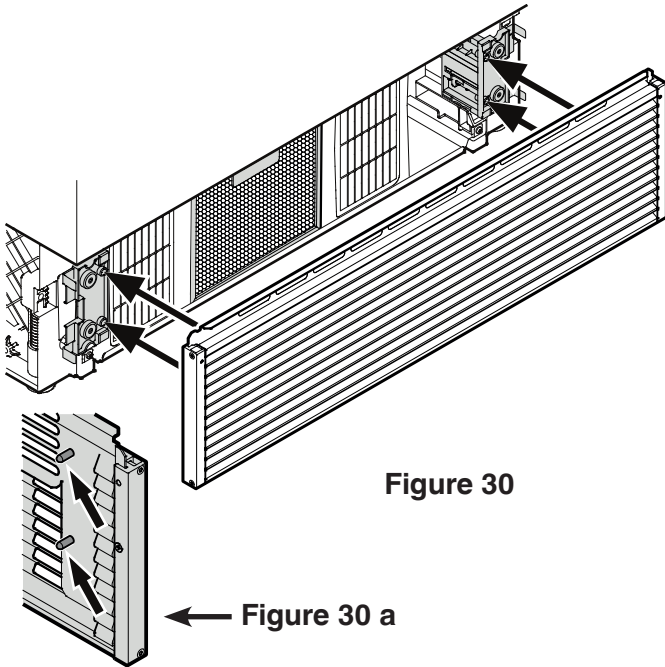

Figure 30
7. Install the ventilation grille (**Figure 30**).
The grille has bolts on the inside (see detail in **Figure 30 a**). These bolts must be inserted into the holes of the supports.
Figure 30 a